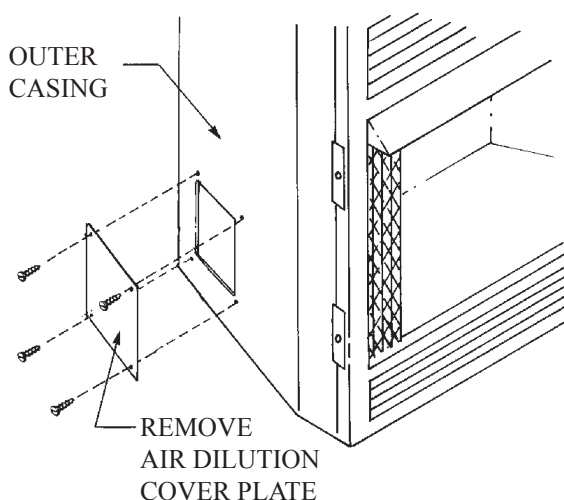
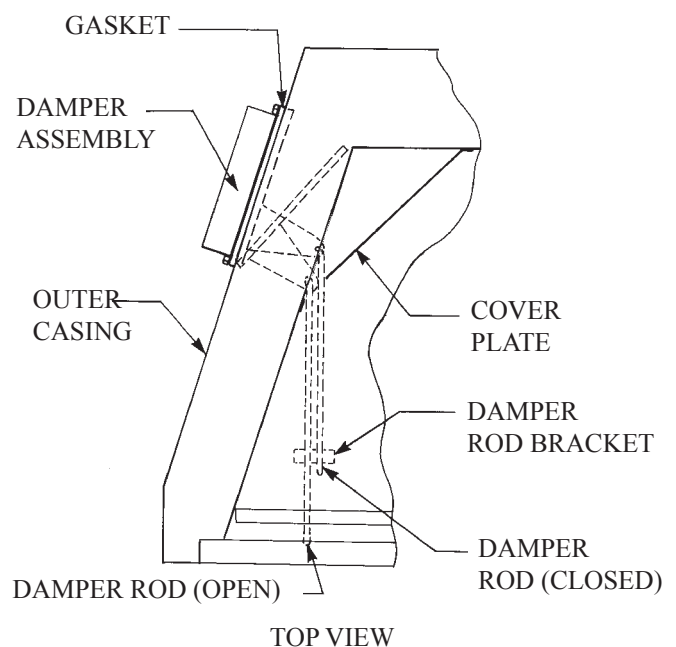

Figure 2 Damper Assembly Location
Figure 3 Top view of air system installation
### Installing Fresh Air Intake Kit (Figures 2, 3, 4, 5)
1. Remove air dilution cover plate from left side of outer casing by removing (4) 10 x 1/2" screws (See Figure 2).
2. Attach damper assembly onto left side of outer casing with (4) 10 x 1/2" screws from Step 1. The 3" damper door tab will be positioned to the right as the damper assembly is attached to left side of outer casing.
3. As you face the fireplace, insert damper rod bracket into left, interior bottom of fireplace. The 3/4" flange on damper rod bracket must face toward the rear of fireplace. Align (2) clearance holes on damper rod bracket with (2) screw holes on left side of hearth pan. Attach damper rod bracket to the underside of hearth pan with (2) 10 x 1/2" provided screws (See Figure 3).